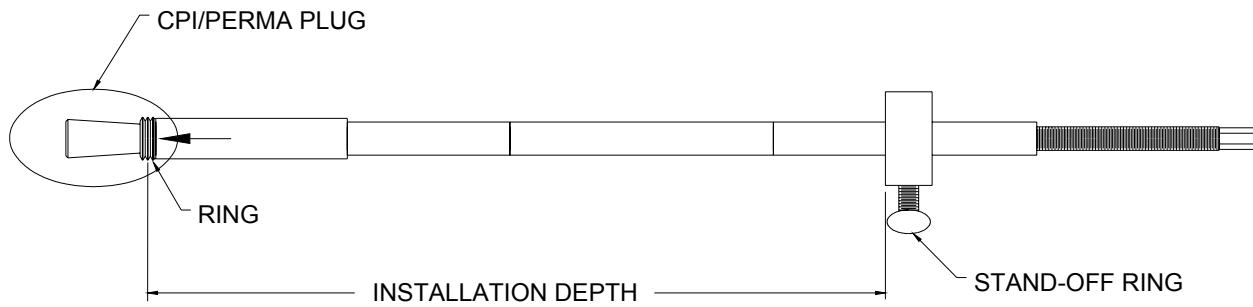

FIGURE 6. Setting Stand-Off Ring
12. Set the Stand-Off Ring. A Stand-Off Ring is used to set the proper Installation Depth prior to installing the plug. The Stand-Off Ring locks onto an Extension Tube by tightening a thumb screw, refer to Figure 6. Make a measurement from the middle of the ring back along the Extensions for a distance equal to the Installation Depth. Using a file, mark the Extension at that point. The mark is permanent and will allow you to check that the Stand-Off Ring is in the proper position prior to each plug installation. Slide the Stand-Off Ring to the mark and firmly tighten the thumbscrew.